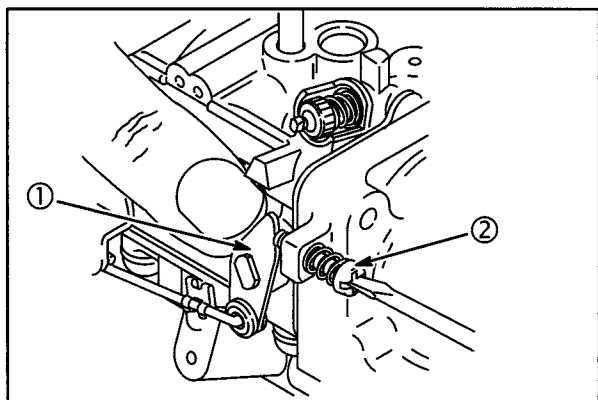

Fig. 19
3. Hold throttle lever (1) against idle speed screw (2), **Fig. 19**. Temporarily adjust idle to **1200 RPM**.